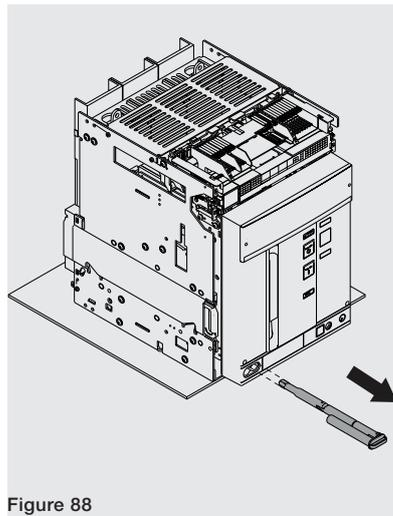

Figure 88
8. Extract the disconnection crank from its housing See Figure 88.